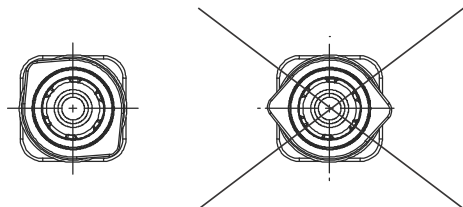

Fig. 17 Fitting the stationary shaft seal part (only SiC/SiC)
4. Press the stationary shaft seal part home. See fig. 17.